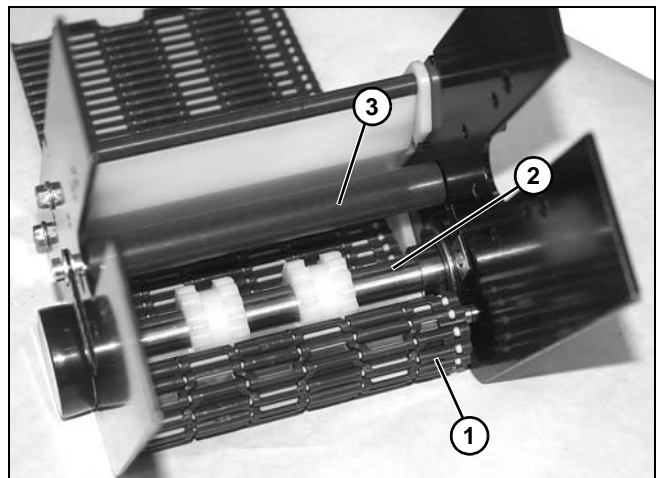

Figure 137
5. Install belt (**Figure 137, item 1**) under drive shaft (**Figure 137, item 2**) and around tensioning rod (**Figure 137, item 3**).